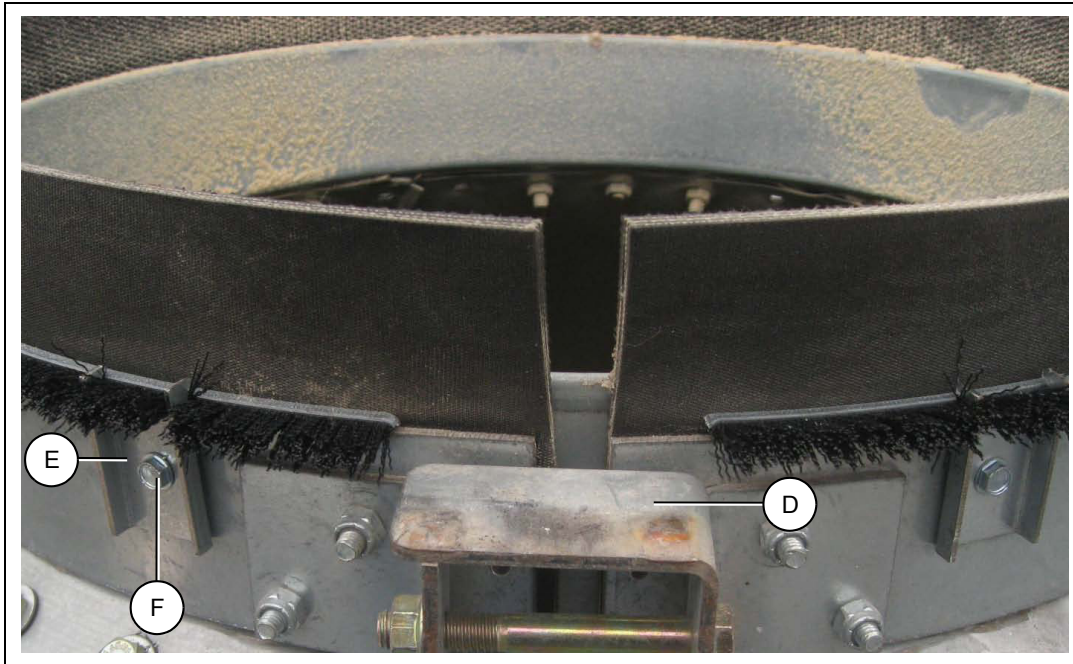

Figure 2
4. Place a clamp (E) on each side of the striker plate (D) with the hook of the clamp positioned on the brush as shown in Figure 2.
5. Install self-drilling screw (F) through each clamp. (See Figure 2.)